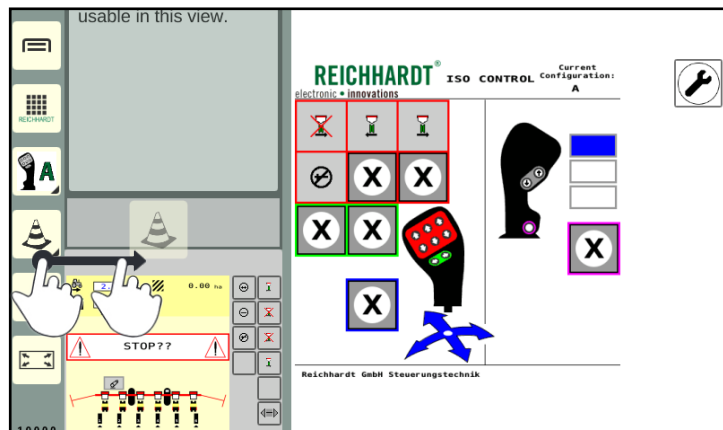

Fig. 61: Positioning the application in the small window
4. Wait until a small, empty window stands out (see Fig. 61).